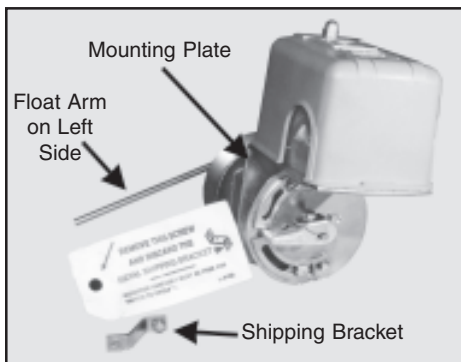

FIGURE 3—Float Switch
- B. Remove shipping brackets on float switches. Per instructions on tag attached to float switch, remove shipping bracket (See Figure 3) from each float switch as per manufacturer's instructions. The float switch have been factory set for maximum capacity of the receiver. Should an alternate setting be required, refer to the float switch manufacturer's instructions. If needed, reference Technical Articles section on the SHIPCO® website ([www.shipcopumps.com](http://www.shipcopumps.com)) for detailed instructions on how to adjust a float switch: